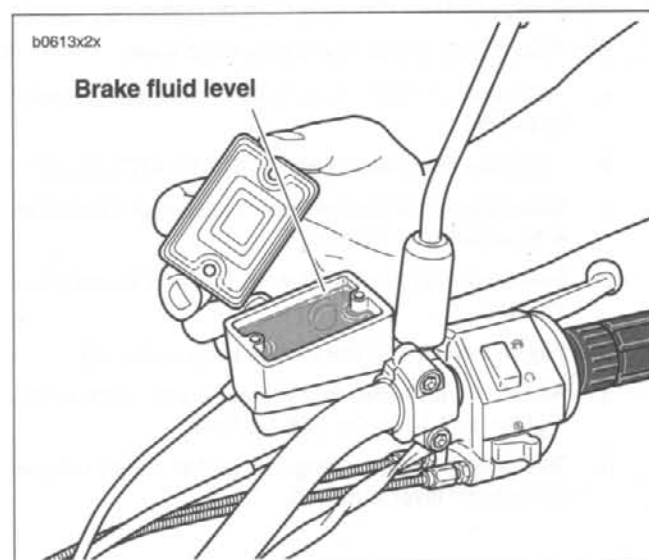

Figure 2-67. Brake Fluid Level
6. See Figure 2-67. With the master cylinder in a level position, add D.O.T. 4 BRAKE FLUID. Bring fluid level to within 1/8 in. (3.2 mm) of molded boss inside front master cylinder reservoir.